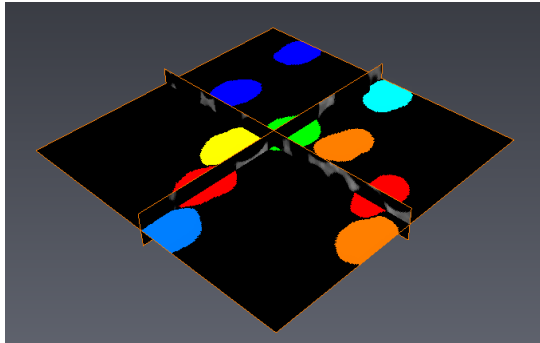

Figure 4.16: Filtering result
- You can verify that fewer objects have been created by connecting the *Ortho Slice* to the new label image `foam.label-filtering`, as shown on Figure 4.16.